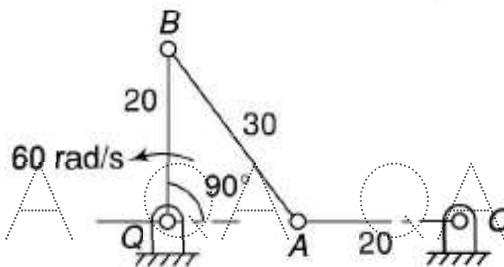

Figure 1
4. For the mechanism shown in figure 1, determine the angular velocity of link AB. [10]